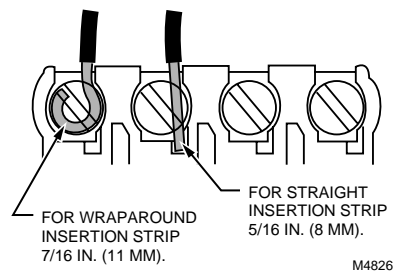

Fig. 4. Proper wiring technique.
1. Loosen the terminal screws on the wallplate and connect the system wires. See Fig. 4.